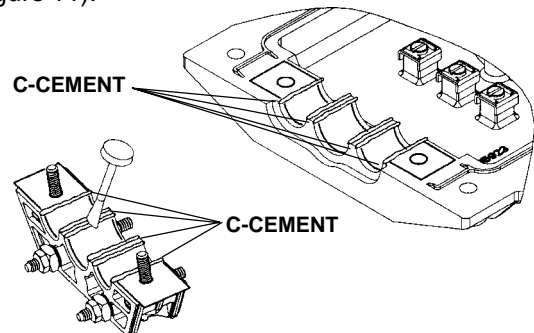

FIGURE 11 - APPLY C-CEMENT TO CABLE ENTRIES
6.07 Remove the cables from the bottom shell half and apply C-cement along the edge of all three entry grooves. (Figure 11)
6.08 Apply C-cement along the edge of all three entry grooves in the cable retainer plate (Figure 11).